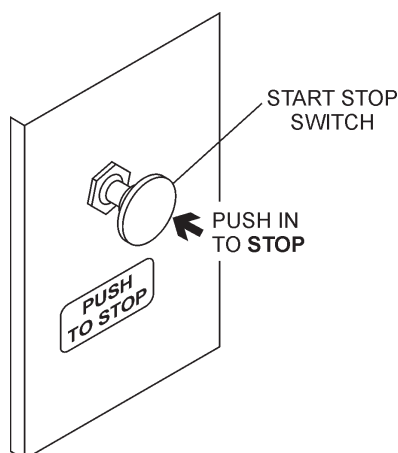

Figure 29. Start/Stop Switch (Stop)
1. Push the **start/stop** switch (Figure 29) inward to stop the engine.